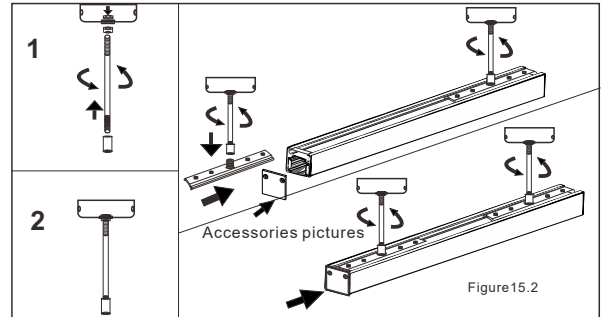

Figure15.2
3. The lifting rod and the screw of the top suction box shall be fixed and assembled. The assembled derrick parts shall be directly fixed to the track, and the screw of the boom and the track shall be tightened to check whether the height and installation position are consistent; (See Figure 15.2)